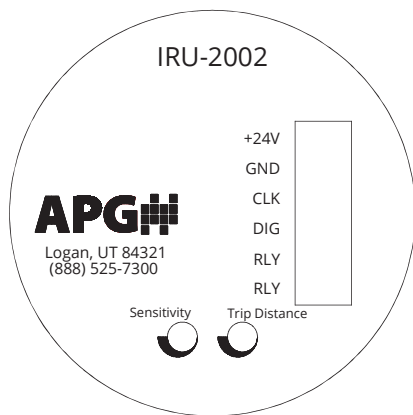
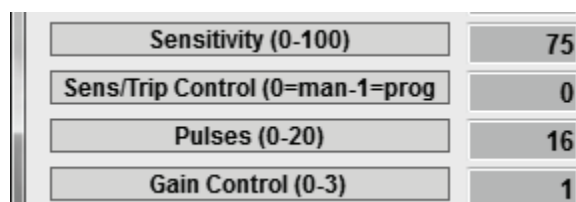

Figure 2.1
Figure 3.3
Potentiometers for setting or adjusting *Trip Distance* (IRU-2002 only) and *Sensitivity* (IRU-2002 and IRU-2003) are located inside the sensor housing along with terminal strips (See Figures 2.1 and 2.2). Both settings can also be controlled via the I2000SWR software (See Figure 3.3).
- For IRU-2002 and IRU-2003 sensors, sytem wiring must be connected to internal terminal strups prior to physical installation. (See Figures 2.1 and 2.2)
For IRU-2002 sensors, *Sensitivity/Trip Point Control* is used to select between potentiometer or software control of *Sensitivity* and *Relay Trip Point*. (See Figure 2.1)
*4 mA Set Point* sets the distance at which the output is 4 mA. This distance is measured from the Zero Point. See Figures 3.3 and 3.4.